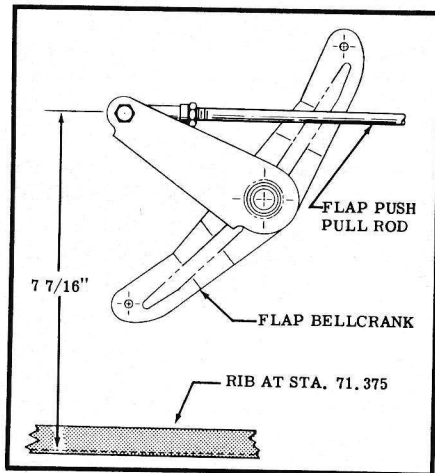

Figure 5-3. Flap Bellcrank Adjustment
- (2) Hold the flap in the full-up position by applying firm hand pressure upward and forward against trailing edge of flap.
- (3) Adjust the flap push-pull rod until the flap bellcrank is in the position shown in figure 5-3.
- (4) Release the hand pressure that was applied to the flap trailing edge in step 2 and tighten the flap-up cable turnbuckle located behind the rear cabin door post until the cable has a tension of 20-40 lbs.
- (5) Repeat steps 2 thru 4 for the opposite flap.
- (6) Move flap handle to the flap full-down position.
- (7) Tighten the turnbuckles of the flap-down cables until the cables have a tension of 20 to 40 pounds.